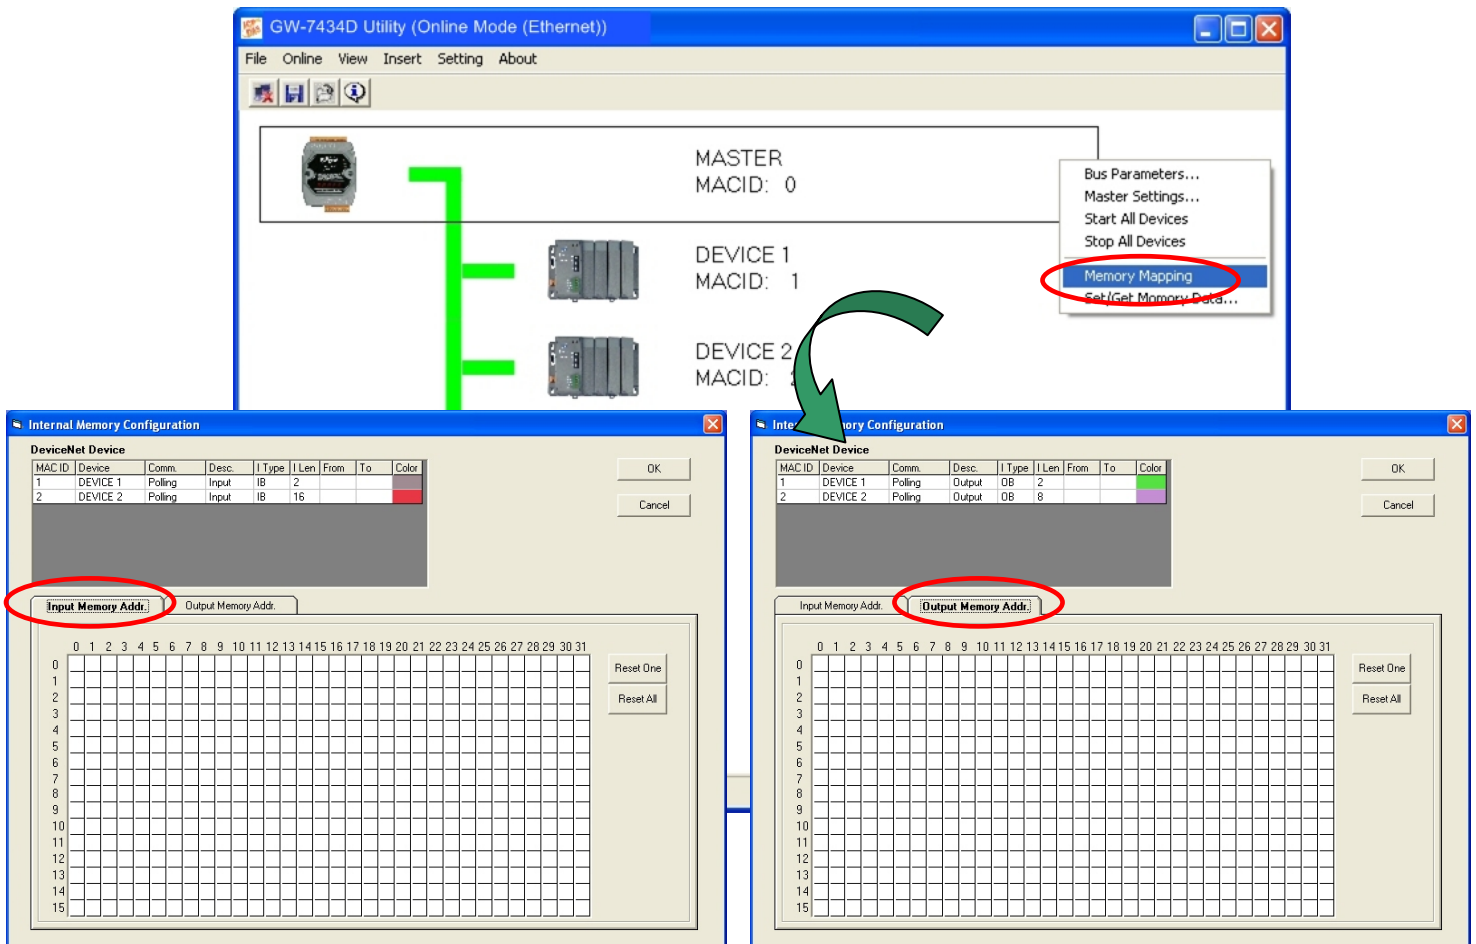

Figure 5-29: Internal Memory Configuration
2. Select the "Setting" item on the menu bar, or click the mouse right-button on the master frame, then click the "Memory mapping" item. Then the "Internal Memory Configuration" window will be pop-up. As shown in figure 5-29.